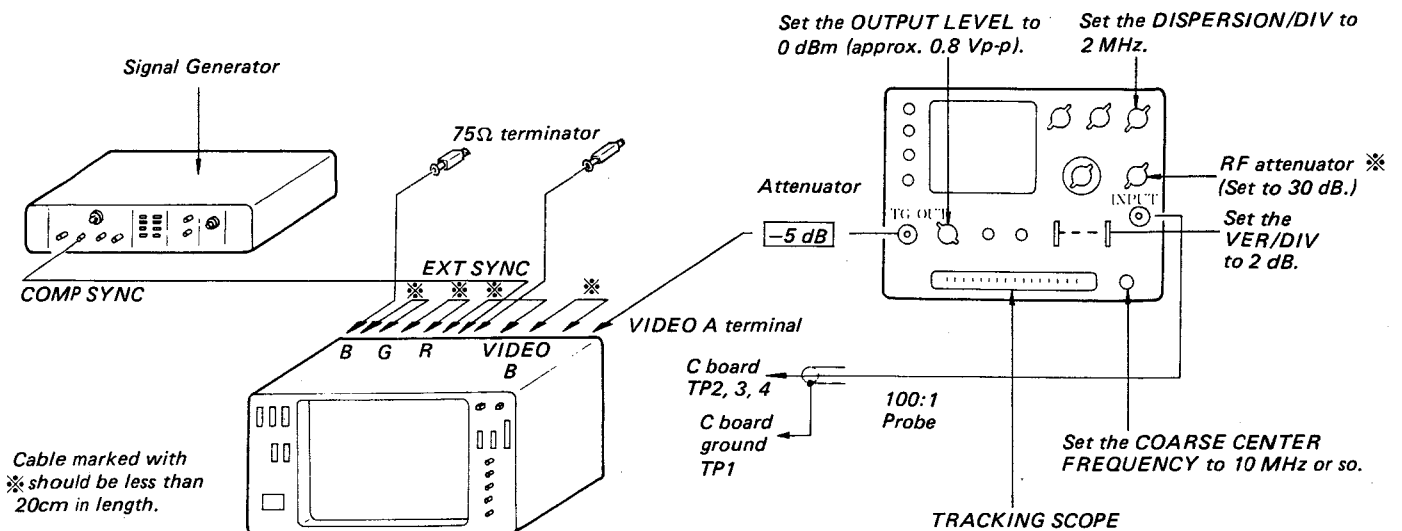
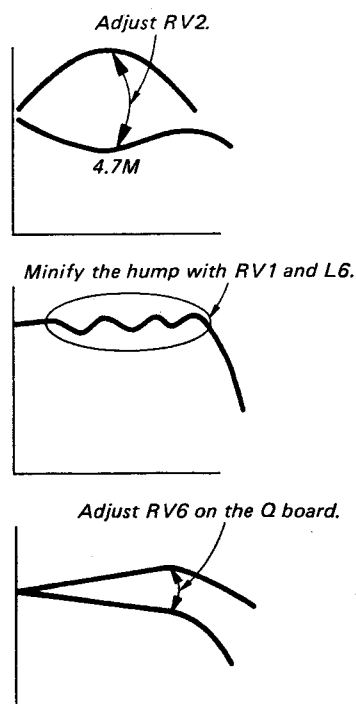

Fig. 5-52.
Fig. 5-53.
1. Complete the connections as shown in Fig. 5-52.
4. Connect the probe to TP2 (R) on the C board. (ground: TP1) Adjust CV1 on the BE board so that the output waveform is flat in the range of 0 to 6 MHz.
5. Connect the probe to TP3 (G) on the C board, and adjust CV2 on the BE board so that the output waveform is flat in the range of 0 to 6 MHz.
6. Connect the probe to TP4 (B) on the C board, and adjust CV3 on the BE board so that the output waveform is flat in the range of 0 to 6 MHz.
7. Set the INPUT switch to the TEST position, and connect the probe to TP3 (G) on the C board. Adjust RV2, RV1 and L6 on the B board, and RV6 on the Q board so that the G waveform in the TEST system coincides with the G waveform in the RGB system in the range of 0 to 6 MHz. (See Fig. 5-53.) (It is recommended that it be done while switching-over the INPUT switch between RGB and TEST.) Adjust RV1, 2 and L6 so that the output waveform is linear as far as possible. (Set the standing-wave ratio to minimum.)